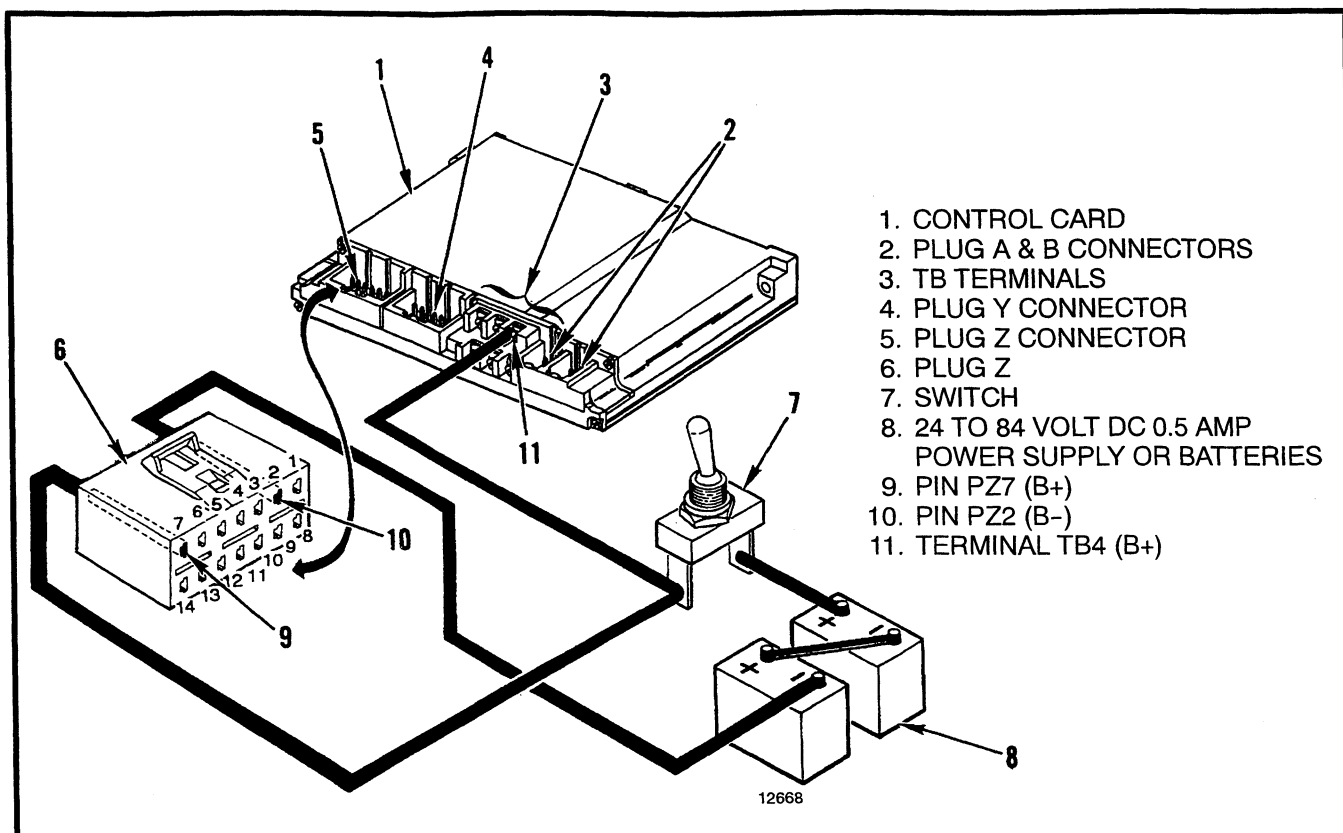

FIGURE 4 - BENCH CHECKS AND ADJUSTMENTS
This section has the control card checks and adjustments that can be made using the hand set. The control card checks and adjustments are usually made with the control card installed in the lift truck. Bench checks and adjustments can also be made with the control card connected as shown in FIGURE 4. The checks show the stored setting numbers that have been stored for the different control card functions. This section also includes a description of each of the different functions. The function settings can be adjusted using the adjustment knob of the hand set. See FIGURE 1.
Connecting the Control Card for Bench Checks and Adjustments (See FIGURE 4)
1. Connect the switch and a Plug Z (Hyster part number 1308651) to the power source using the wire as shown in FIGURE 4.
2. Make sure the switch is in the **OFF** position and connect the wire to TB4 as shown in FIGURE 4.